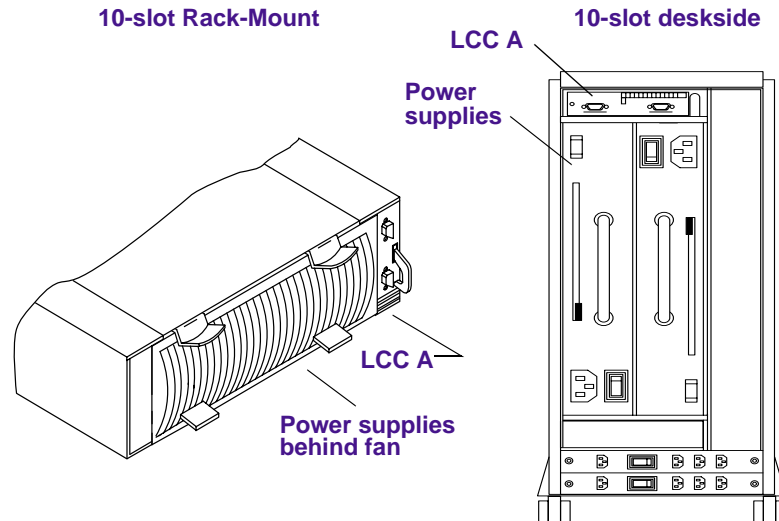
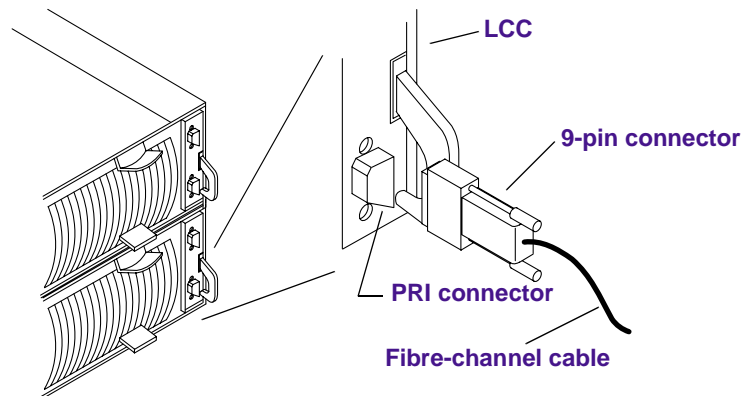

Figure 1-1 FCDE Connection Locations
Figure 1-9 Attaching the Fibre-Channel Cable to the LCC Slot A
The figures in the following sections refer to the rack-mount FCDE, which mounts horizontally in a standard NEMA or EIA rack. When you are installing a deskside model, the FCDE is vertical. Figure 1-1 shows the locations of the components in both the rack-mount FCDE and the deskside FCDE.
2. Attach the 9-pin connector on the cable to the primary (PRI) 9-pin connector on the link control card (LCC) in slot A on the back of the FCDE. Figure 1-1 shows the location of LCC slot A, while Figure 1-9 shows a more detailed view of the connection. Secure the cable with the thumbscrews on the cable connector.